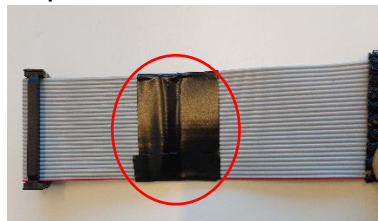

Figure 46. Insulation tape placement.
12) Place insulation tape at the exposed end of the flat ribbon cable (See Figure 46).